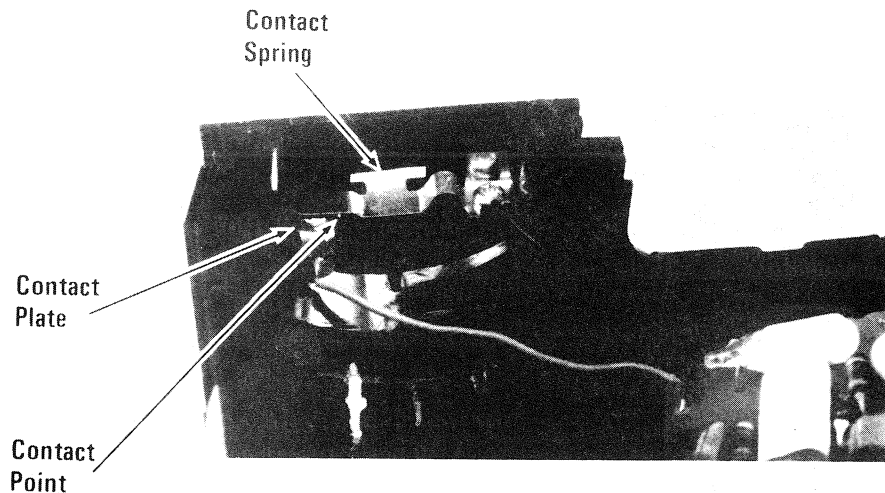

Figure 3-18. Reassembling Body Case LA
- A. Reinstall BCC contact plate and spring as shown. Fig. 3-18.